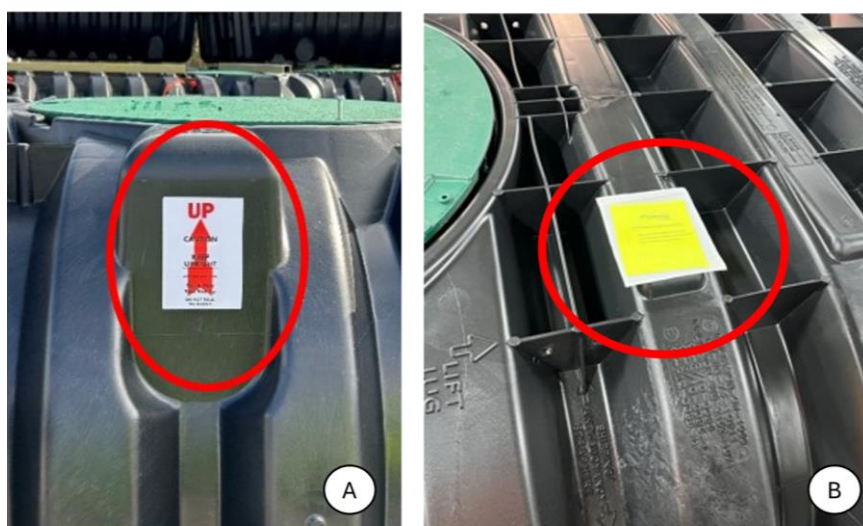

Figure 10: A) UP/Caution label on side of tank – B) Reactor S/N pouch
- Remove the backing from the “**UP/Caution**” adhesive label and apply it to one side of the tank. Press firmly by hand to ensure full contact and proper adhesion to the tank surface (see Figure 10Ⓐ)
- Remove the backing from the **Reactor’s serial number pouch** adhesive label and place it on a visible spot for the installer on top of the tank (Figure 10Ⓑ)